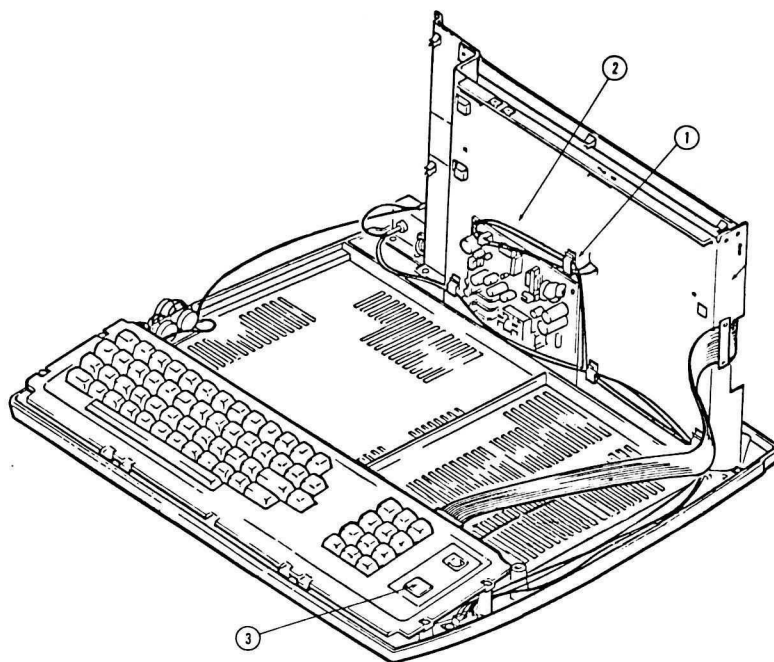

Figure 4. Base Assembly
18. If any harnesses (Figure 4 Item 1) are tied down to the chassis, untie them. Remove the harness clips.
20. Remove the 4 screws fastening the main power supply (Figure 4 Item 2) to the chassis and carefully remove the power supply.
22. Remove the 6 screws in the Model III keyboard bezel (Figure 4 Item 3) and remove the Model III keyboard bezel.